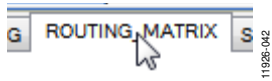

Figure 40. Selecting the ROUTING\_MATRIX Tab
- 3. Click the **ROUTING\_MATRIX** tab (see Figure 40) to allow configuring the routing matrix.